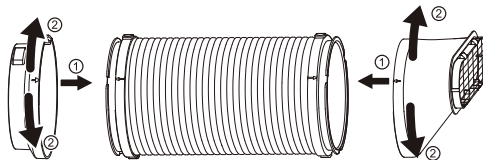

Fig. 1
- Align both the arrows of the Hose Inlet connector and the Exhaust Hose, then rotate the Hose Inlet clockwise or counter-clockwise to lock into place. (see Fig. 1)